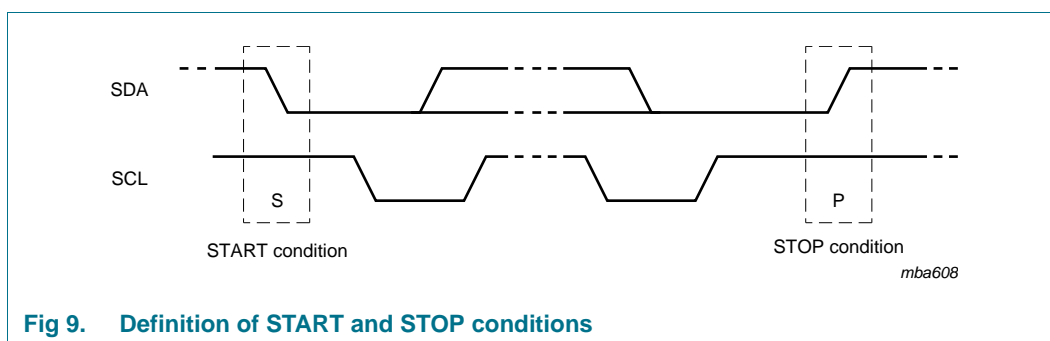

Fig 9. Definition of START and STOP conditions
Both data and clock lines remain HIGH when the bus is not busy. A HIGH-to-LOW transition of the data line while the clock is HIGH is defined as the START condition (S). A LOW-to-HIGH transition of the data line while the clock is HIGH is defined as the STOP condition (P) (see Figure 9.)